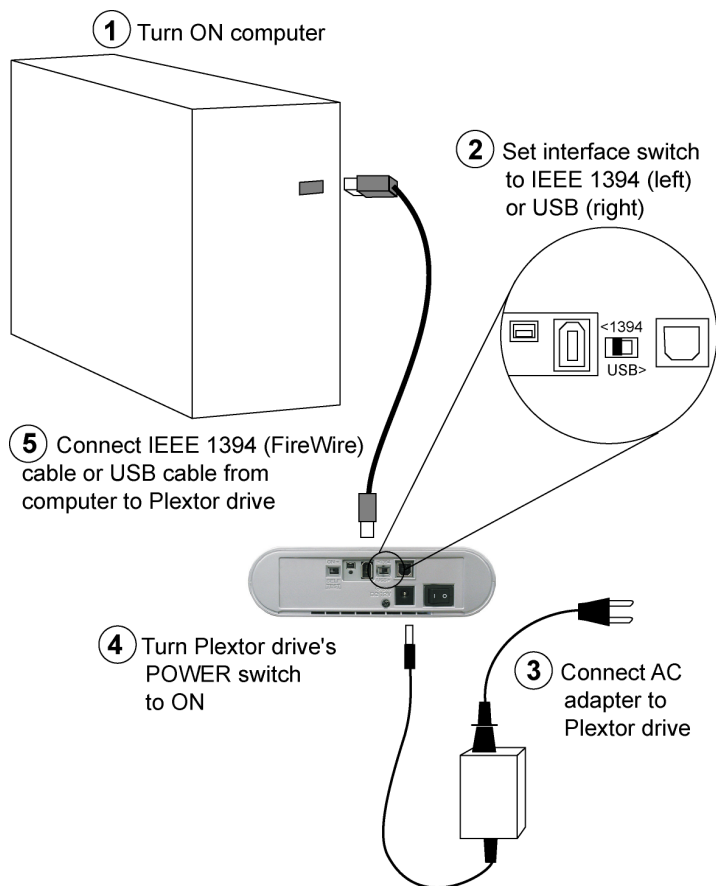

Figure 3: Connecting the AC adapter and USB or FireWire cable
3. Connect the AC adapter to your PX-716UF as shown in Figure 3.